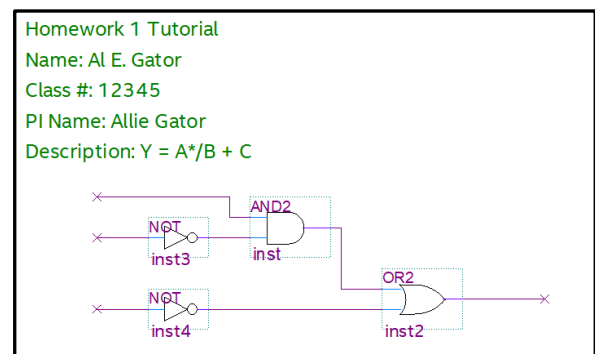

Figure 3: BDF with wires
- Add the rest of the wires needed to connect the logic diagram. Add small input lines where the three inputs will be placed and an output line where the output will be placed. Your bdf should look similar to Figure 3.